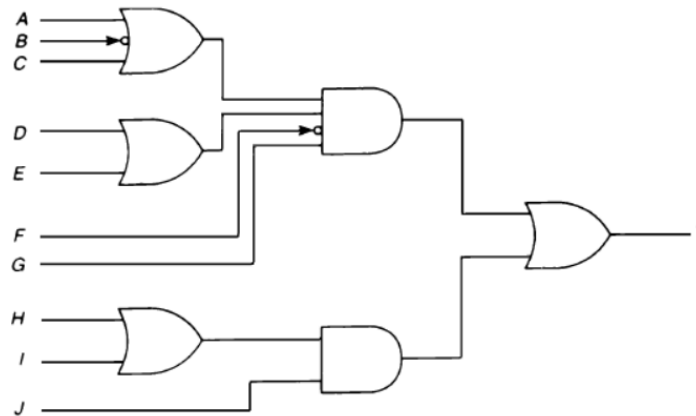

Figure 4
- i) Figure 4 shows the logic gate circuit used for a specific automotive assembly operation. As a part of plant automation project this circuit needs to be replaced by a PLC with a ladder logic program. Therefore, translate the following digital logic control circuit into an equivalent PLC ladder logic program.